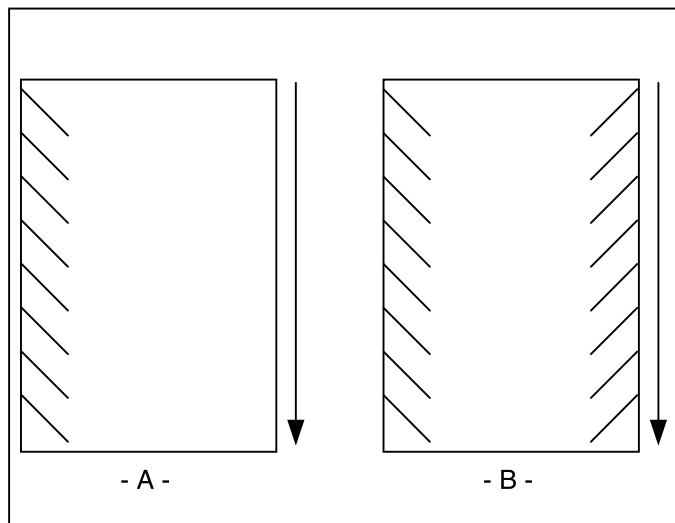

Fig. 36
## 3. Angled waves in the output (Figure 36 A &amp; B).
- Check for even paper tension (Figure 36 A only)